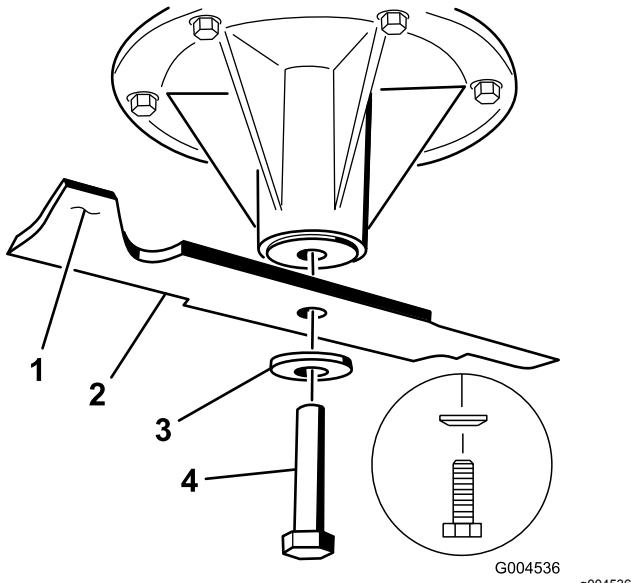

Figure 76
2. Remove the blade bolt, the curved washer, and the blade from the spindle shaft (Figure 76).
- If the blade is not balanced, file some metal off the end of the sail area only (Figure 76).